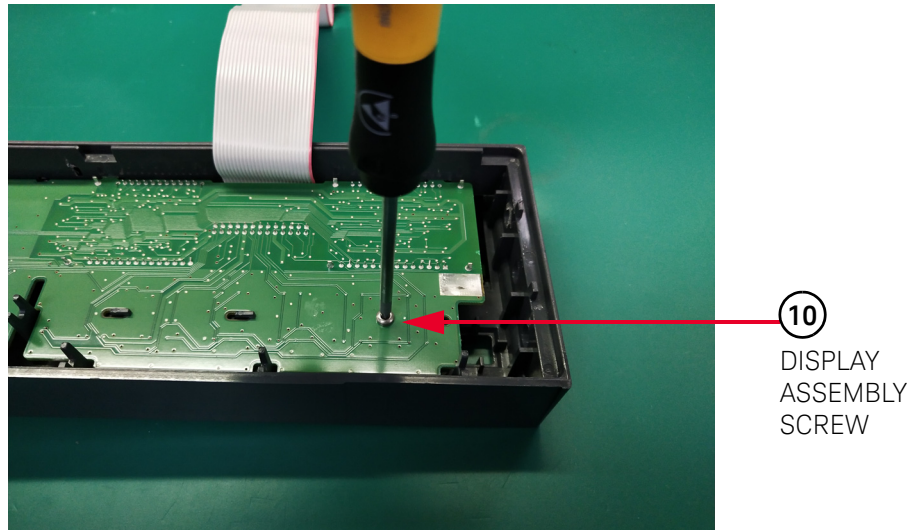

Figure 3-20 Remove/Install display screw
- 14** Refer to Figure 3-20. Use the #TX10 Torx driver to remove the single Torx screw from the Display assembly.
- 3 Refer to Figure 3-20. Use the #TX10 Torx driver to install the screw on the Display assembly.